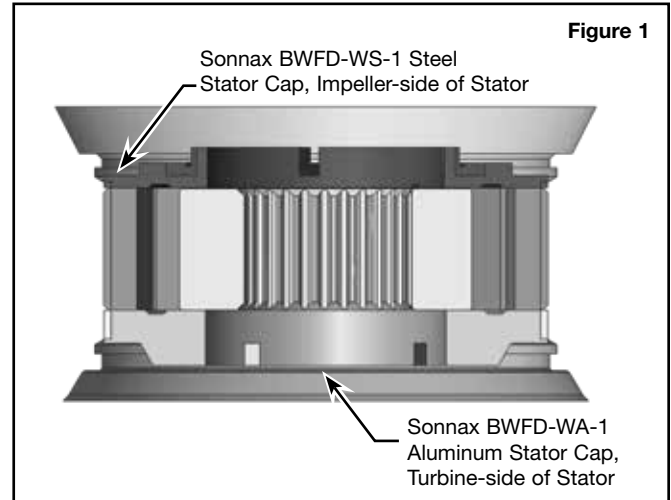

Figure 1
- d. It is recommended to replace the accordion springs and rollers with eight new Sonnax springs **FD-S-1*** and rollers **FD-RO-900***. Install Sonnax inner stator race **FDGM-HR-HP**. Place Sonnax aluminum stator cap **BWFD-WA-1** into place and use the OE snap ring to hold everything in place (**Figure 1**).